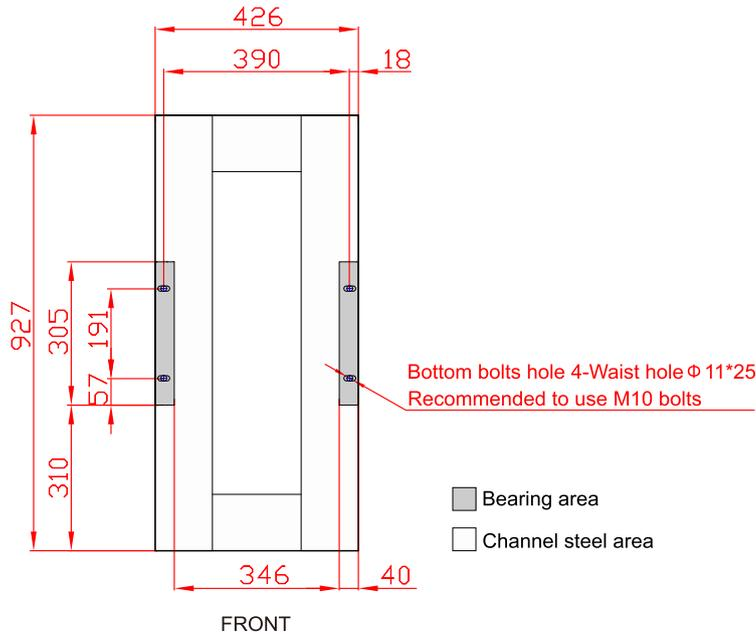

Figure3-11 Recommended installation size for channel steel (unit: mm)
- If channel steel is used for installation, drill four installation holes  $\phi 14\text{mm}$  on the channel steel directly according to the drilling size shown in Figure3-11, and then install it directly according to **Step 4**.